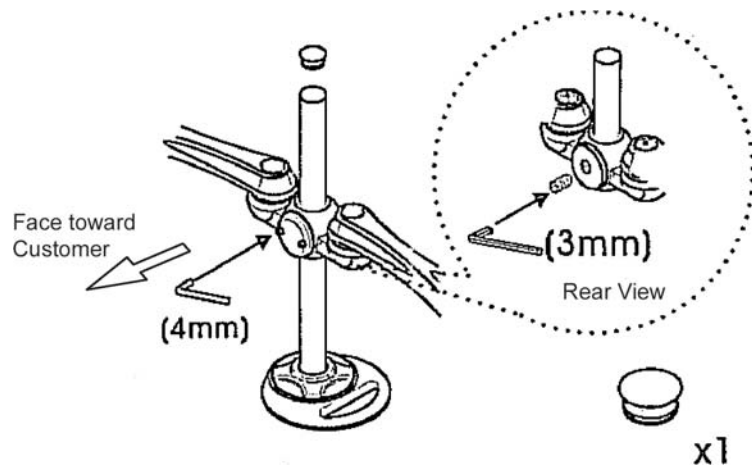

Figure C-15 Arm Installation
- 5.) Mount arms with pole. (Figure C-15)